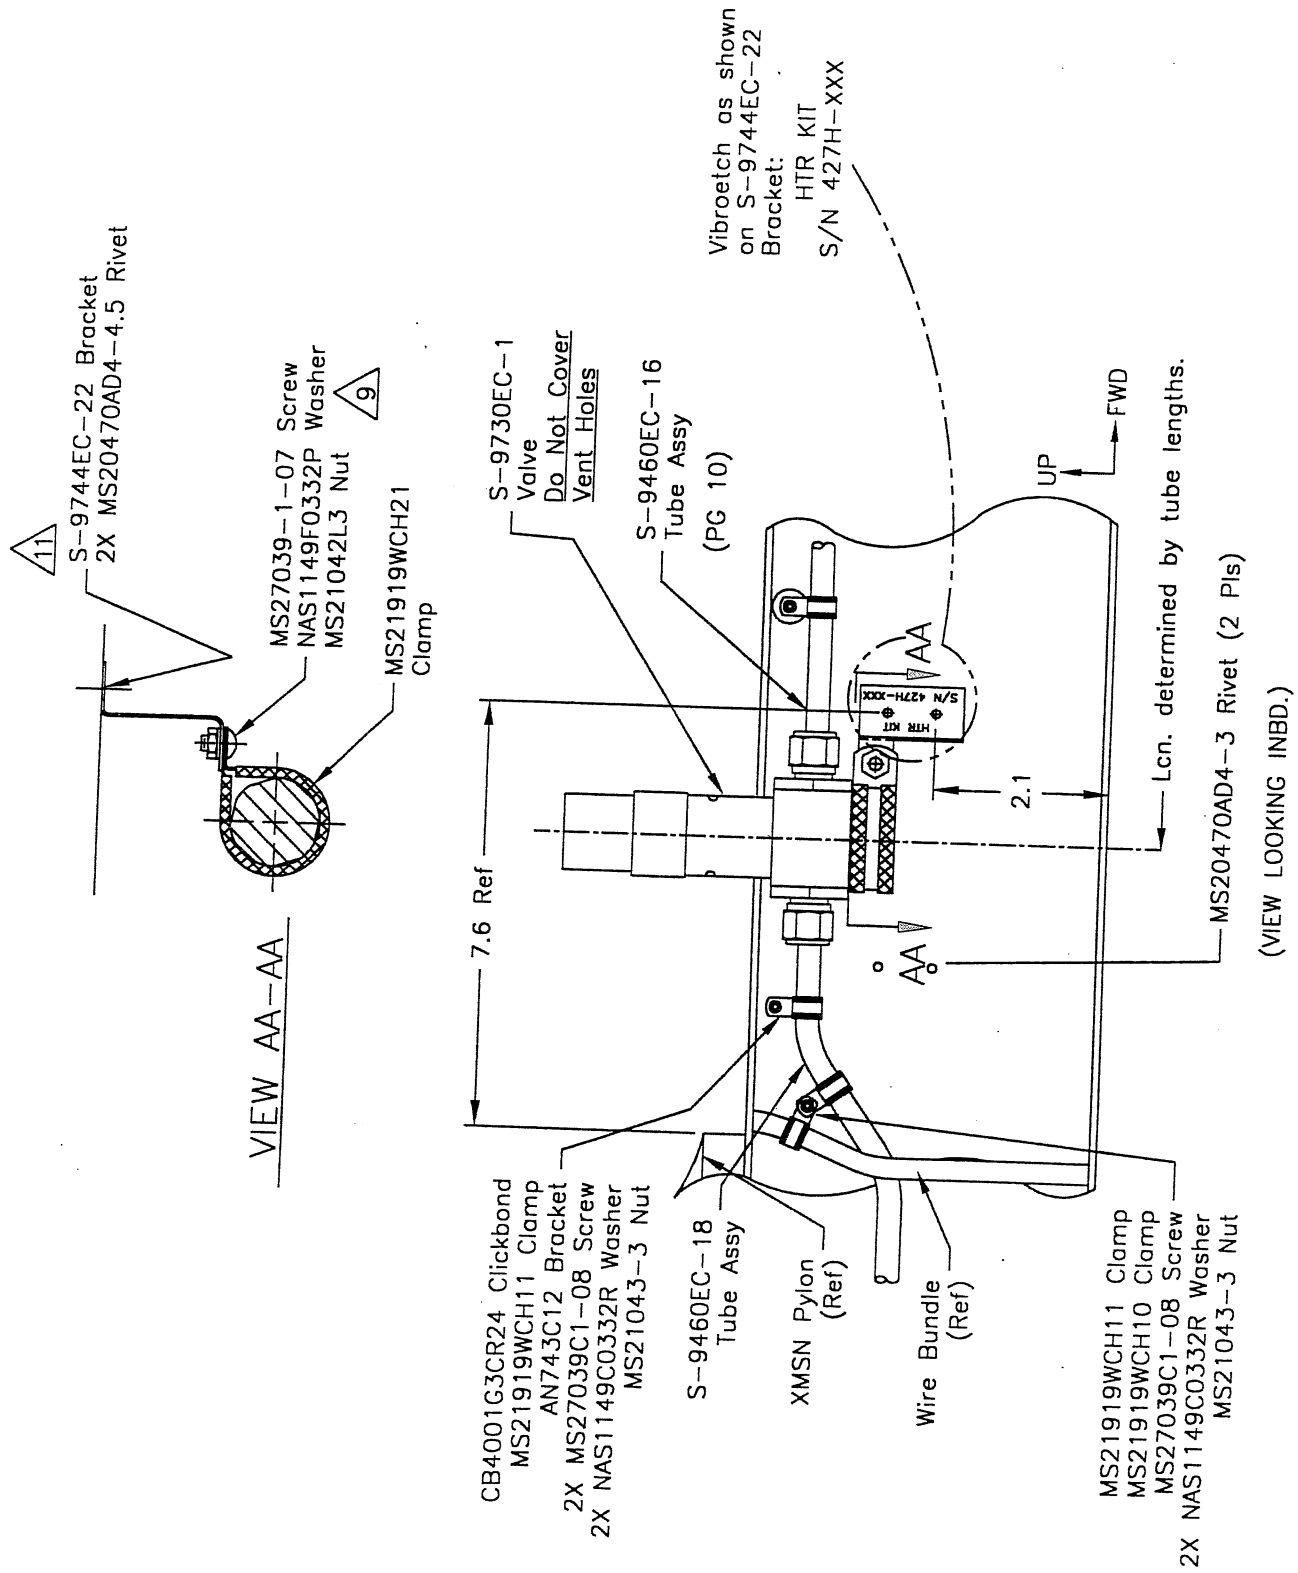

Figure 1-2, Revised S-9730EC-1 Shutoff Valve Mounting Configuration
Installation: (Figure 1-2)
3. Reinstall the S-9730EC-1 Shutoff Valve with the valve body orientated as shown in Figure 1-2.
4. Install the MS21919WCH21 Clamp on the end cap of the S-9730EC-1 Shutoff Valve as shown in Figure 1-2.